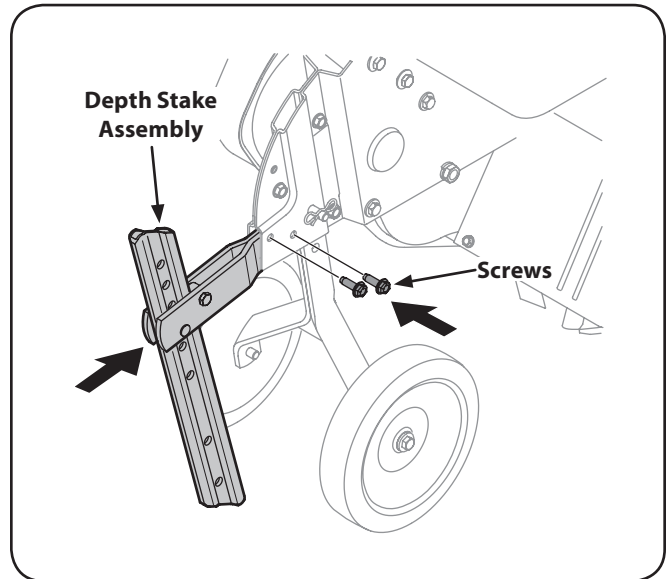

Figure 1-6
- Insert the depth stake assembly into the frame and reinstall the two screws removed earlier. Tighten the hex bolts securely. See Figure 1-6.